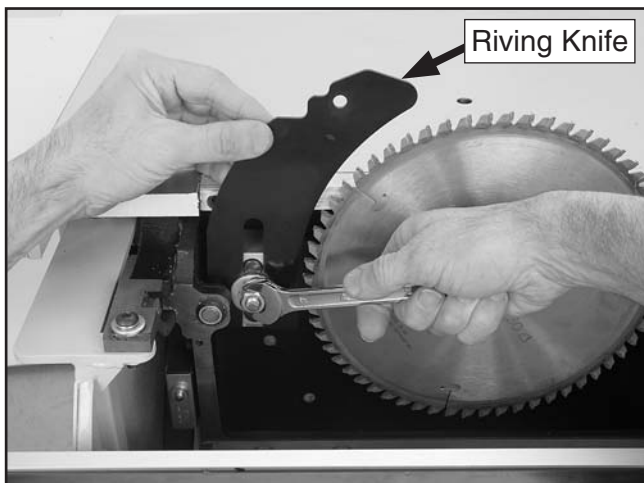

Figure 22. Installing riving knife.
17. Install the riving knife (**Figure 22**), using the instructions on **Page 32** as a guide.